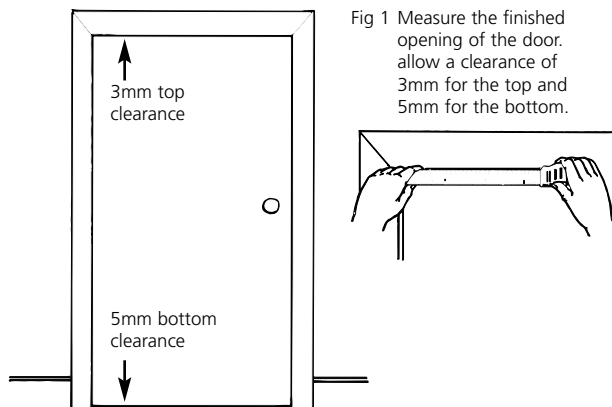

Fig 1 Measure the finished opening of the door. allow a clearance of 3mm for the top and 5mm for the bottom.
1. For a new door, measure the finished opening. The final door size needs to have the following clearances (Fig 1):